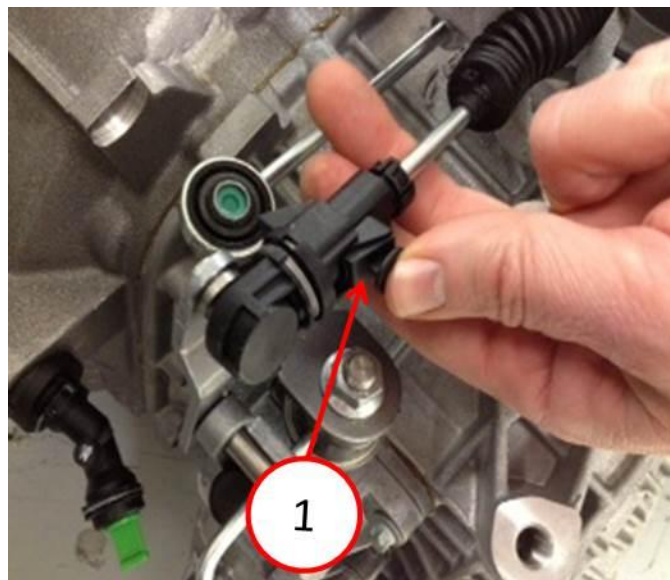

Fig. 11 Shift Cable
24. If the adjustor stays in the unlatched position, depress the button (Fig. 11).